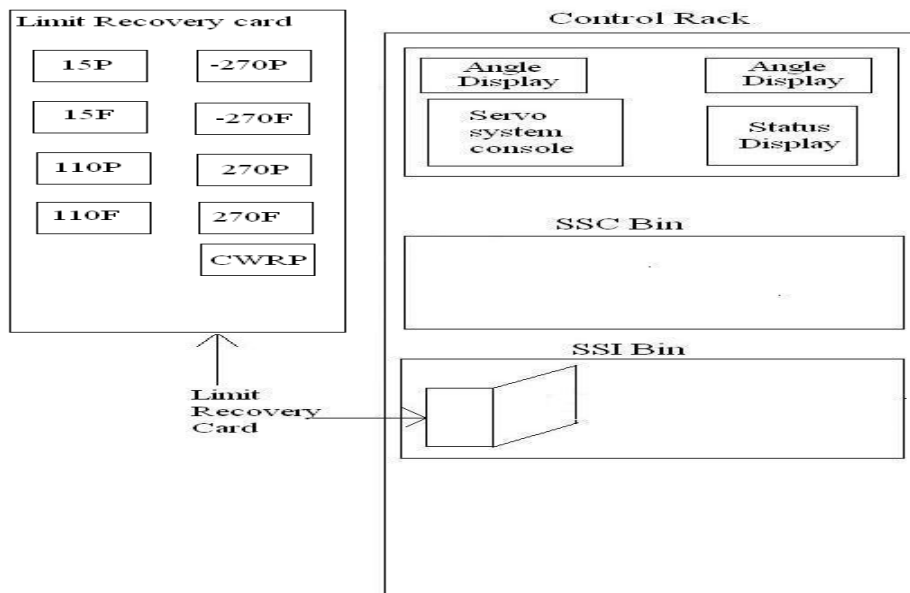

Figure2: Limit hit indication in Limit recovery card for Interlock test
1. Figure2 shows limit recovery card mounted in control rack which shows limit hit indication